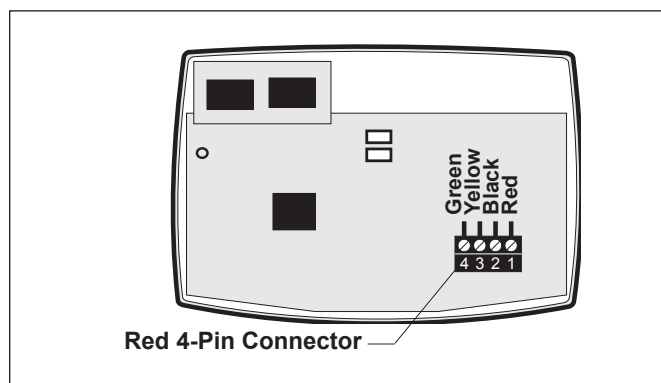

Figure 24. All Button Control Panel PCB
3. Drill $\frac{1}{4}$ " holes at the three (3) mounting screw marks and insert the plastic anchors. Drill a $1\frac{1}{4}$ " (min.) to 2" (max.) hole for cable access.
6. Remove the red, 4-pin terminal bar from the control panel PCB. Connect the 4 conductor cable to the red, 4-pin terminal bar (see Figure 24). Reconnect the red, 4-pin terminal bar back to the Control Panel PCB.